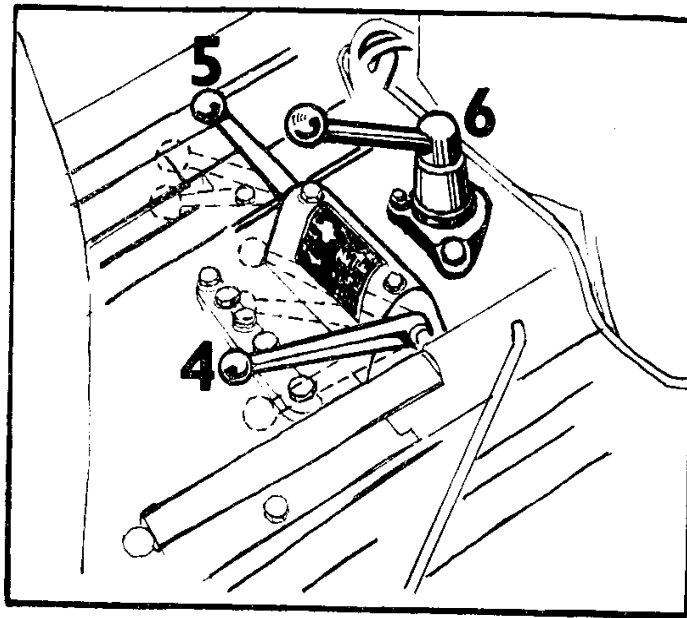

Fig. 4
Clutch disengagement by hand can be carried out for a short period only. There is a left-hand shifting lever, placed on the gearbox cover which serves for permanent disengagement of the PTO (Fig. 4/4).
4. Both the PTO and hydraulic power lift control lever (Fig. 4/4)
- 5. Reduced and road speeds control lever (Fig. 4/5)
6. PTO revolutions control lever (Fig. 4/6)